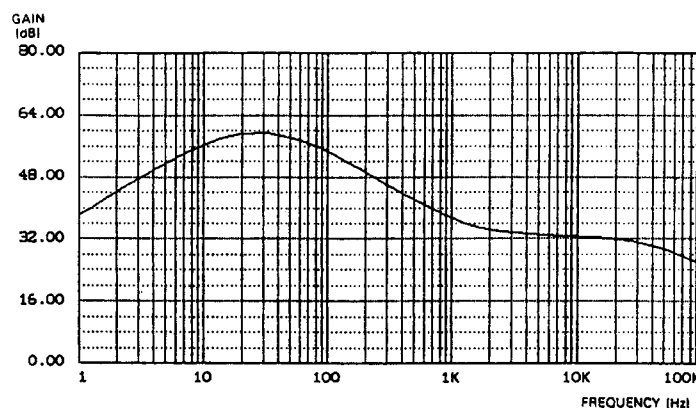

Fig. 7-4-6 Frequency response of PB EQ amp.
Normal audio output from the A/C head is supplied to IC16 through pin ② (L-ch) and amplified by the PB amp inside the IC. This IC applies negative feedback to the signal so as to function as the PB equalizer amp. The frequency characteristic of this PB equalizer amp is shown in Fig. 7-4-6.